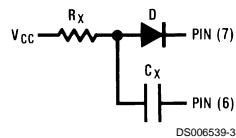

FIGURE 1.
- When an electrolytic capacitor is used for C_X a switching diode is often required for standard TTL one-shots to prevent high inverse leakage current (Figure 1). However, its use in general is not recommended with retriggerable operation.